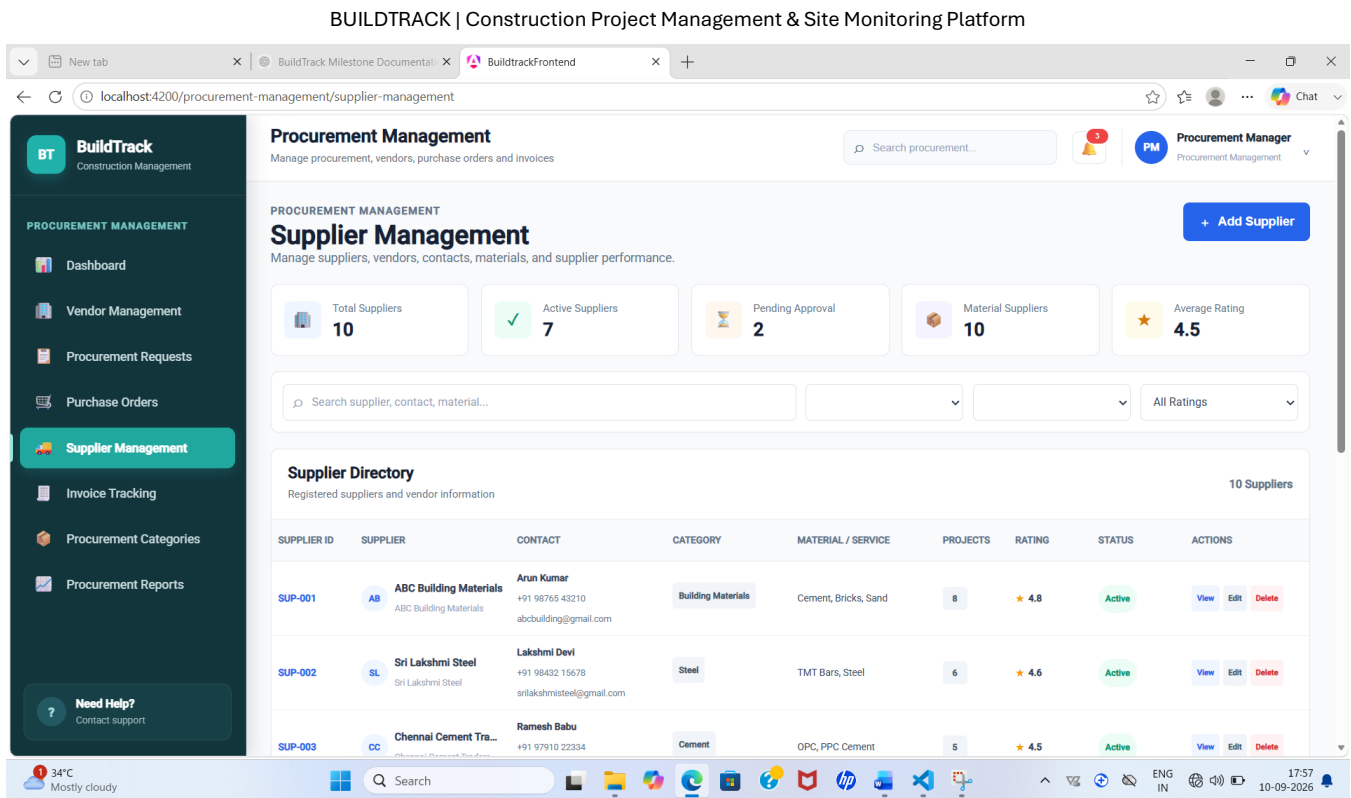

Figure 15: BuildTrack – Supplier Management
- Figure 15 – Supplier Management